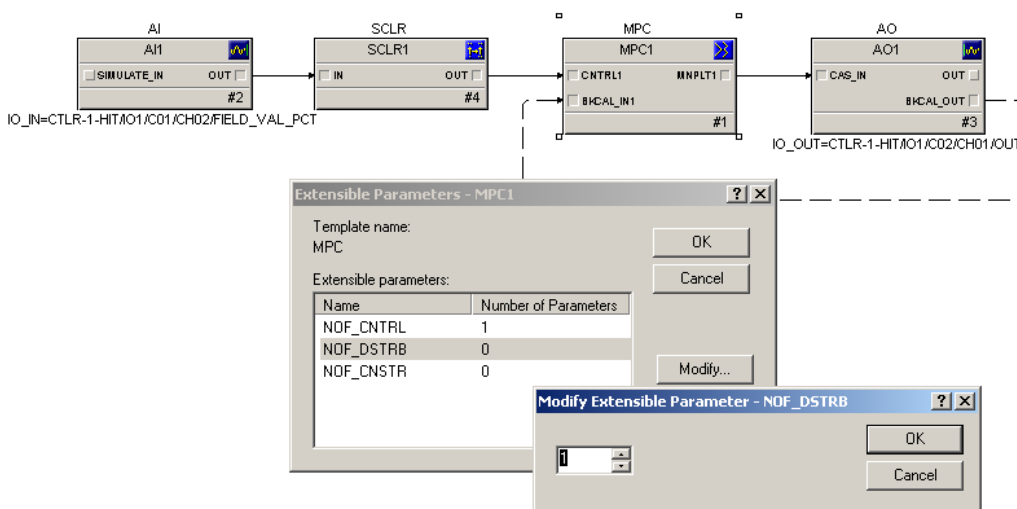

Figure 2.6 Adding constraint and disturbance variables.
In addition, for MPC training purposes we will also include constraints (AV) on the level, and disturbance (DV) being the outflow. These are typical variables in a process and often affect the performance. To include them we need to add these parameters to the MPC block. Right click the MPC block and choose Extensible Parameters. Then double click on NOF_DSTRB and add 1 to the Modify Extensible Parameter - NOF_DSTRB, see Figure 2.6. Click OK and add 1 to the NOF_CNSTR. Again click OK and Yes until you are back to the MPC loop.